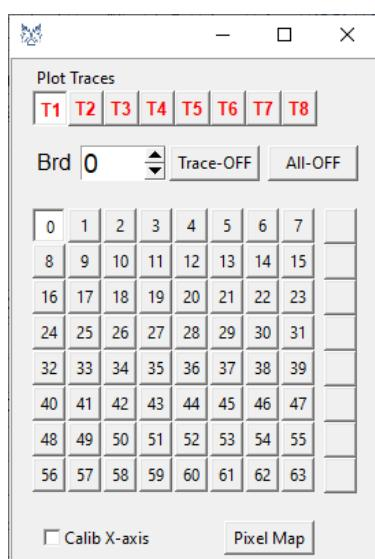

Fig. 10.24: Plot Traces window.
8. Press the "Plot Traces" button  . A window similar to that in Fig. 10.24 is opened. The window allows the user to choose between the different traces that can be visualized in the same *gnuplot* window.
7. Put a thick on the "Calib X-axis" parameter of the Janus Plot Traces window (see Fig. 10.24) in order to convert the X axis scale from Channels to ns.